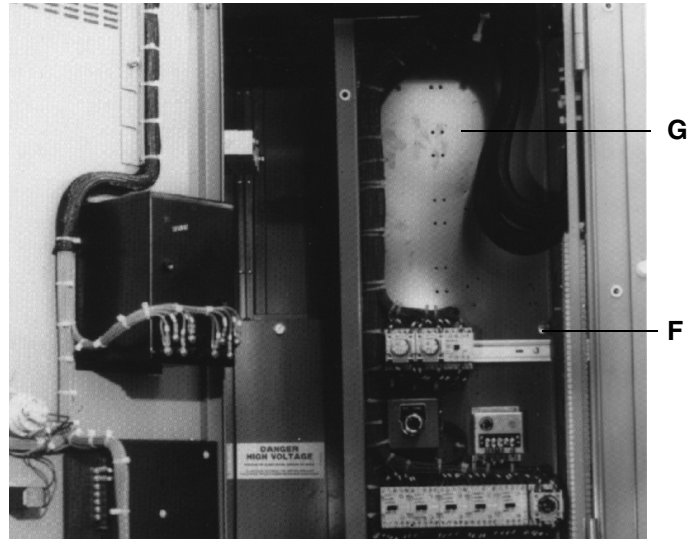

Figure 8 Opening Low Voltage Compartment
7. Loosen low voltage compartment retaining nut (Fig. 8, item F).
8. Pull low voltage compartment (Fig. 8, item G) forward and swing it to the right.